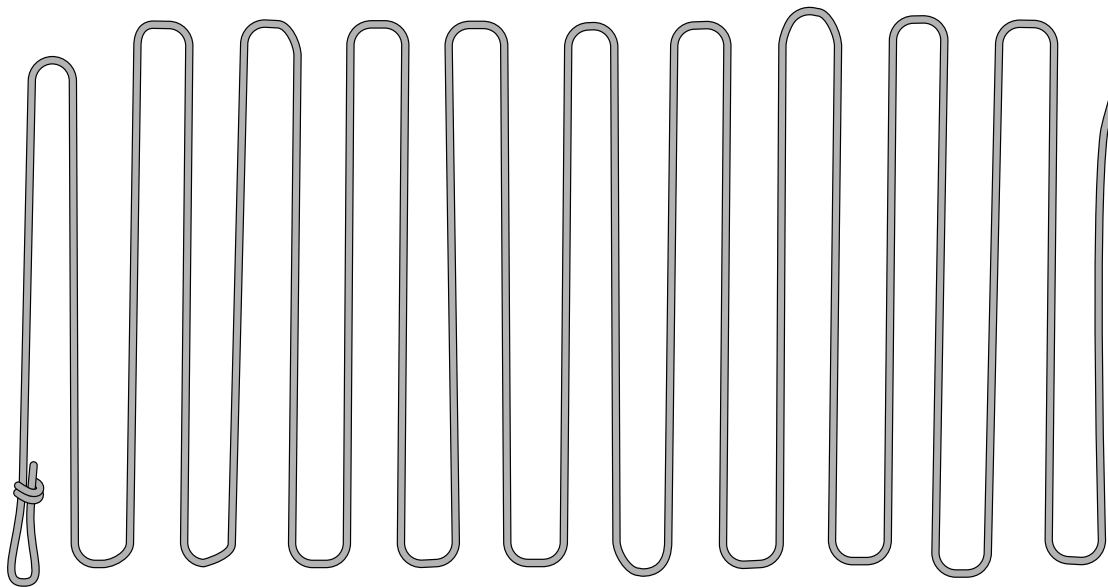

Figure 8-6. Laying the Rope to Construct an Alpine Basket.
1. Start by tying an end-of-the-line figure-eight loop and then laying down the rope to make 24 to 36 inch-long bights that span the height of the casualty's body (see Figure 8-6). Ensure the bights stay no more than 4 inches apart from one another.